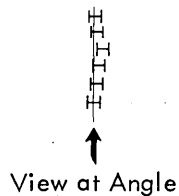

Figure 1-46. Horizontal Registration
1. Worn or maladjusted train drive gears are evident by a 5- or 6-line ripple in the H-pattern when the vertical column of H's is viewed obliquely (Figure 1-46). See also Service Hint 8.